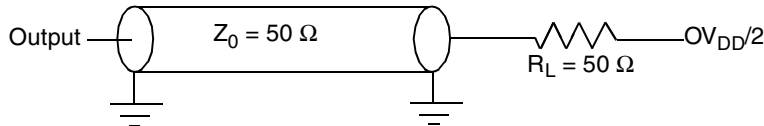

Figure 30. AC Test Load for the JTAG Interface
1. All outputs are measured from the midpoint voltage of the falling/rising edge of t_{TCLK} to the midpoint of the signal in question. The output timings are measured at the pins. All output timings assume a purely resistive 50-Ω load (see Figure 30). Time-of-flight delays must be added for trace lengths, vias, and connectors in the system.
2. The symbols used for timing specifications herein follow the pattern of $t_{(first\ two\ letters\ of\ functional\ block)(signal)(state)\ (reference)(state)}$ for inputs and $t_{(first\ two\ letters\ of\ functional\ block)(reference)(state)(signal)(state)}$ for outputs. For example, t_{JTDVKH} symbolizes JTAG device timing (JT) with respect to the time data input signals (D) reaching the valid state (V) relative to the t_{JTG} clock reference (K) going to the high (H) state or setup time. Also, t_{JTDXKH} symbolizes JTAG timing (JT) with respect to the time data input signals (D) went invalid (X) relative to the t_{JTG} clock reference (K) going to the high (H) state. Note that, in general, the clock reference symbol representation is based on three letters representing the clock of a particular functional. For rise and fall times, the latter convention is used with the appropriate letter: R (rise) or F (fall).
Figure 30 provides the AC test load for TDO and the boundary-scan outputs.
Figure 30 provides the AC test load for the I²C.